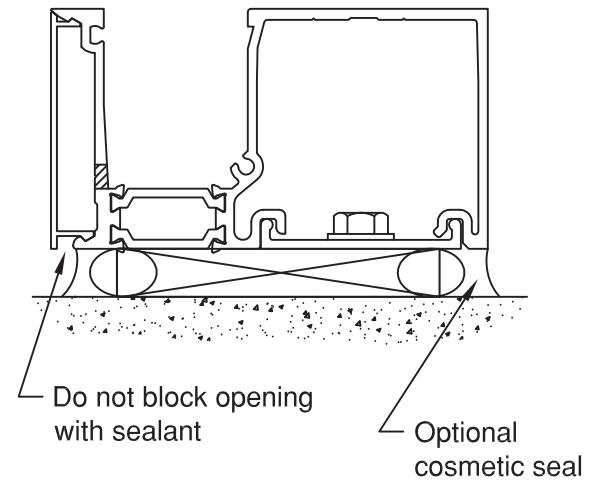

Figure 15
- 3.4 Seal perimeter of frame. Care must be taken to marry seals at the corners of the frame. Interior seals are not required for system performance, but may be necessary for cosmetic purposes. **SEE FIGURE 15 PAGE 12.**